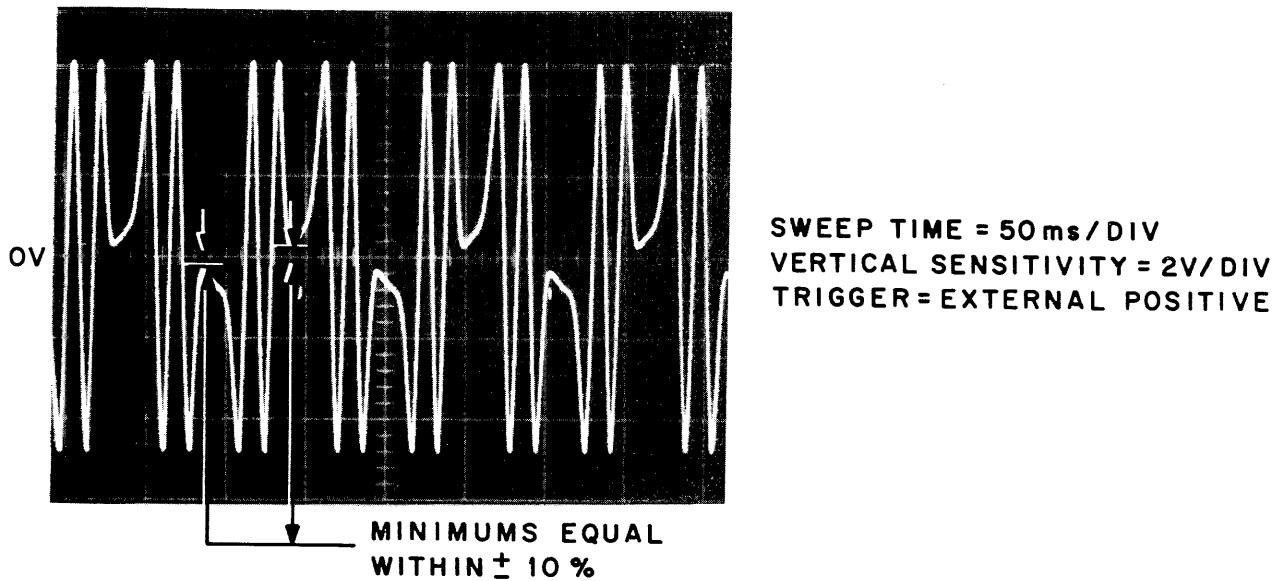

Figure 5-10 Position Offset Adjustment Waveform
22. Adjust potentiometer VO until the signal position minimums are equal within $\pm 10\%$ of zero (Figure 5-10).